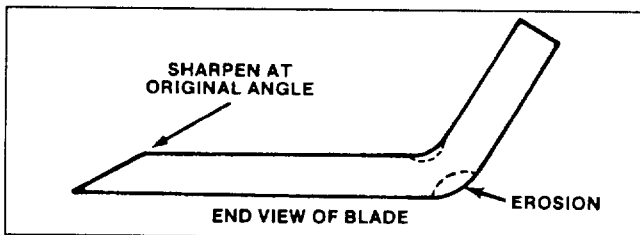

Figure 18
Check cutter blade every time rider is tipped on end. If bolt holding blade is loose, tighten it to 45-60 ft-lb. If blade or sail (Fig. 18) at end of blade is worn, eroded, or cracked, replace the blade. Replace the blade if it is bent or out-of-balance. Always use genuine TORO replacement blade to ensure safety and best performance. NEVER USE WILL-FIT REPLACEMENT BLADE.
7. Using a file, sharpen cutting edge at both ends of the blade (Fig. 18).
7. Since rider is tipped on end, check condition of blade (Fig. 18).